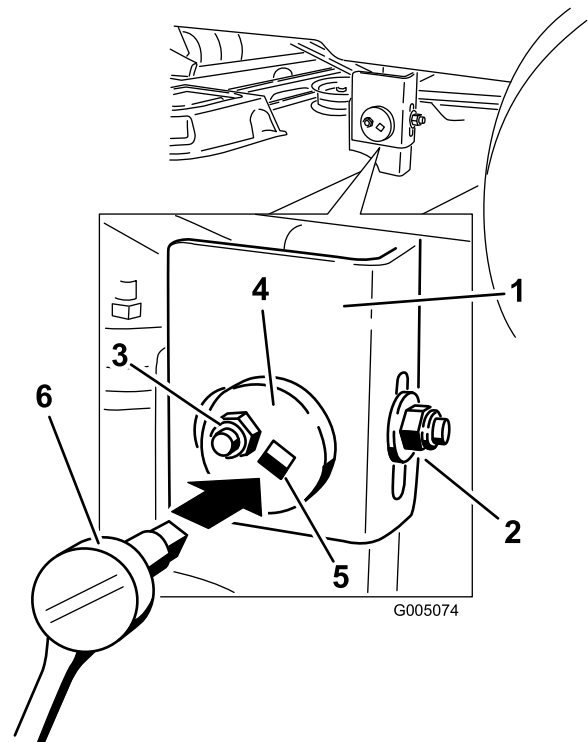

Figure 57
6. Move to the left side of the machine. Loosen, but do not remove, the rear locking nut on the hanger bracket (Figure 57).
7. Loosen the side locking nut on the hanger bracket just enough to allow the eccentric plate to be adjusted (Figure 57). Use a 3/8 inch drive extension on a socket wrench to manipulate the eccentric plate. Use the wrench to reposition the height of the mower deck and adjust it so that the measurements taken in step 5 are within 3/16 inch (5 mm).
8. Stop the deck at the adjusted position and tighten the side locking nut on the hanger bracket to hold the new position (Figure 57). Tighten the rear locking nut on the hanger bracket.